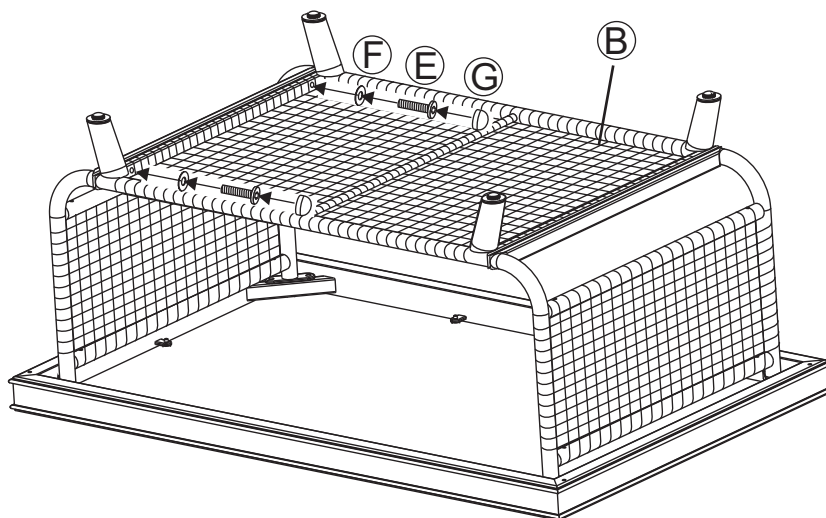

Figure 2
- 2 Attach the leg connector bracket to two table legs by using four 1/4"x30 mm bolts and washers as shown in the **Figure 2**. Guide the bolts through the holes in the leg connector bracket, into the pre-drilled holes in the table legs. **Hand tighten 2-3 turns only**.